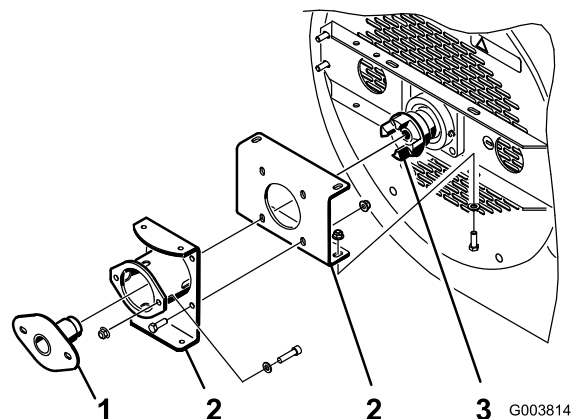
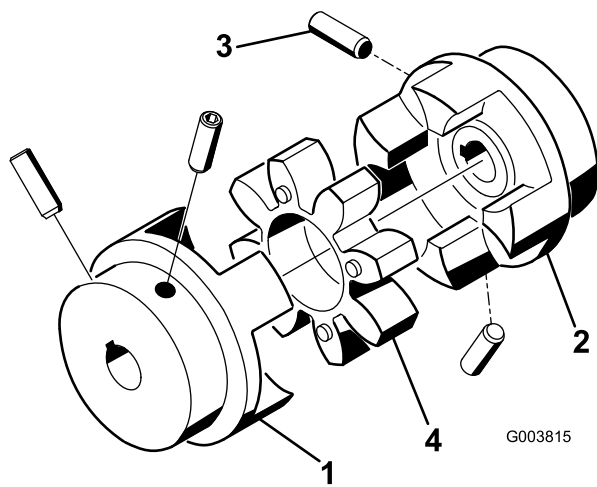

Figure 13
Figure 14
1. Make sure that the mounting brackets are installed to the blower housing but the bolts and nuts are loose (Figure 13).
2. Insert the bearing alignment tool through the mounting brackets and into the fan coupler (Figure 13). Make sure that the spider coupler (Figure 14) is not in the coupler.
- The set screws securing the motor and fan shaft couplers (Figure 14) must be torqued to 58 to 82 in-lb.